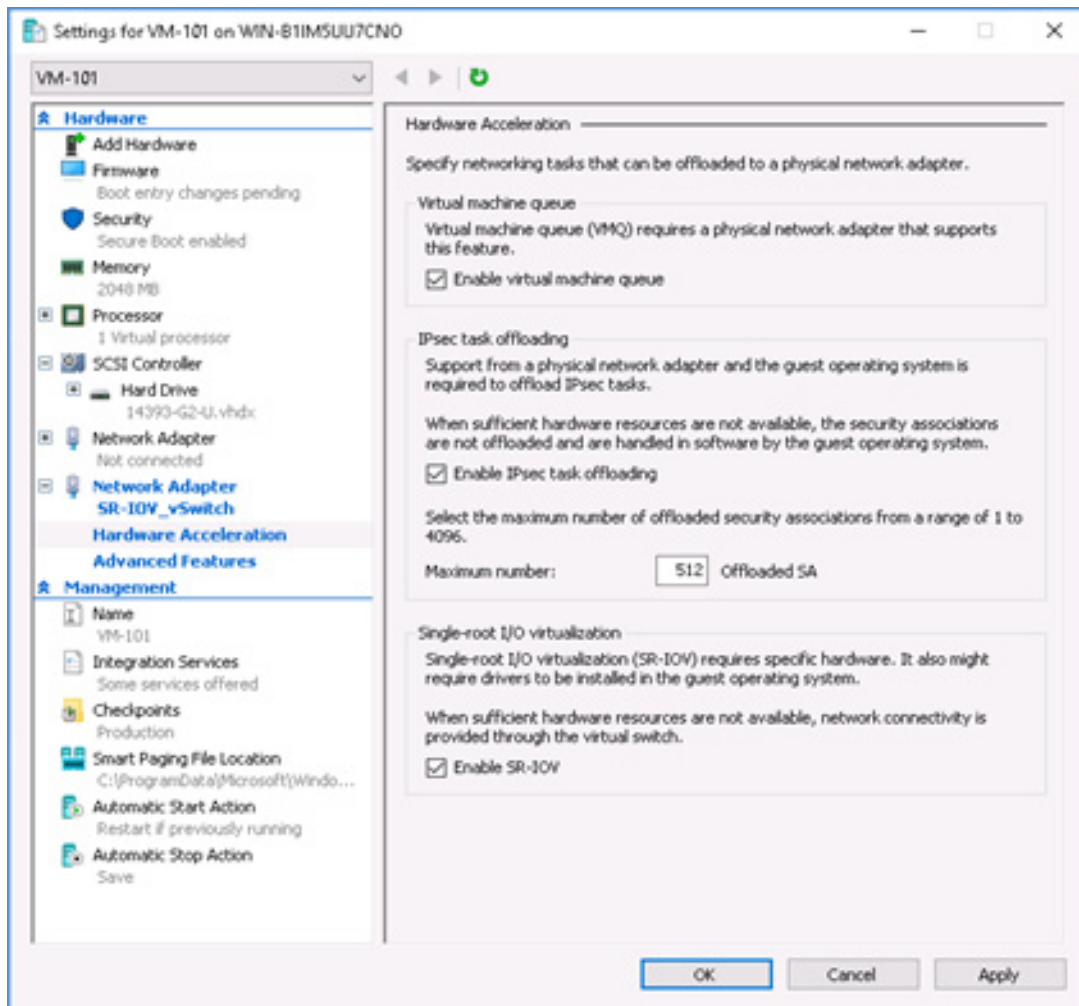

Figure 11-5. Settings for VM: Enabling SR-IOV
12. To create a virtual machine (VM) and export the virtual function (VF) in the VM:
- In the Settings for VM <VM_Name> dialog box (Figure 11-5), Hardware Acceleration page, under **Single-root I/O virtualization**, select the **Enable SR-IOV** check box, and then click **OK**.